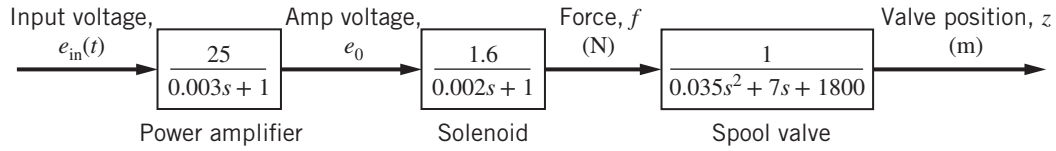

Figure P8.18
- 8.18** Figure P8.18 shows the simplified, linear electrohydraulic actuator (EHA) model. The voltage input is a step function $e_{\text{in}}(t) = 0.2U(t)$ V. The amplifier output is initially zero and the valve is initially at static equilibrium ($z = 0$).